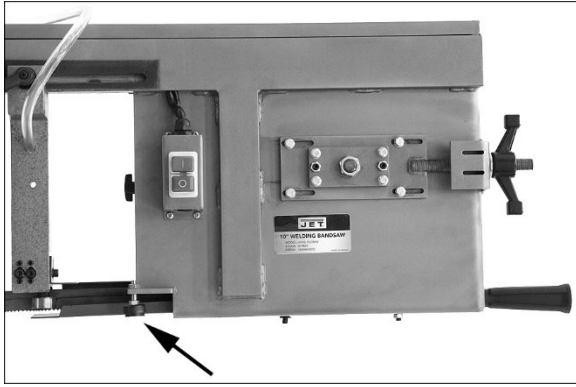

Figure 7-14: stop bolt adjustment
- If blade stops descending and continues running without completing the cut, turn stop bolt down (Figure 7-14).